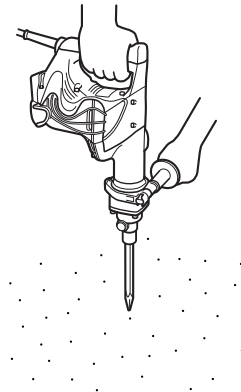

Fig. 6
2. How to chisel or crush (Fig. 6)